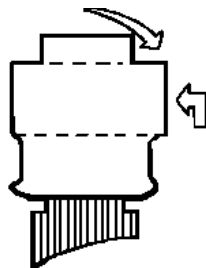

Figure 5-21. Syringe Tip Removal
3. Grasp and remove the tip from the plunger as indicated in **Figure 5-21**. Using needle-nose pliers, turn the tip from side to side to ease removal. Make sure the O-Ring remains in position around the plunger shaft.